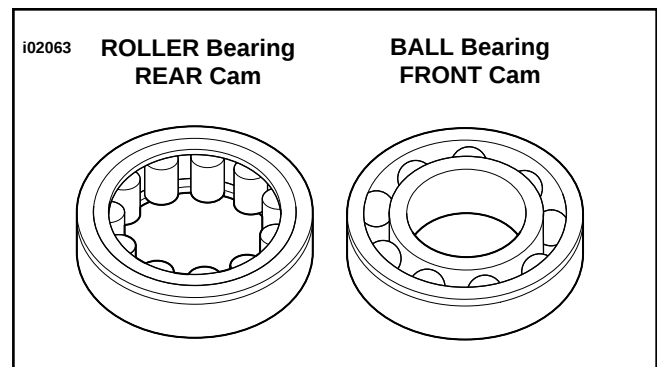

Figure 3. Cam Bearings
3. See Figure 3. Install new cam bearings into cam support plate according to the following: